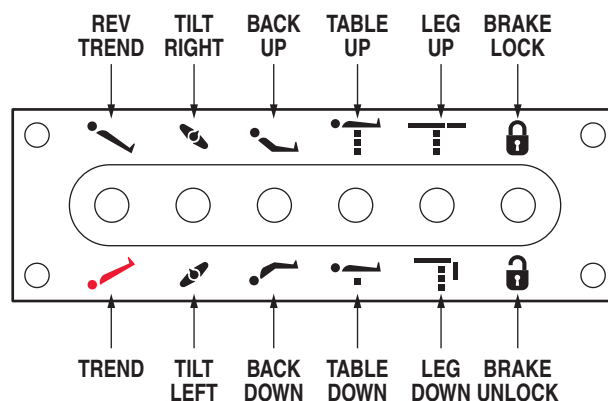

Figure 2-18. Emergency Back-up Controls
b. In the event of either a power failure or a problem with the hand-held pendant control, the table can be operated using the emergency back-up switches. Simply push the desired emergency switch in the appropriate direction to operate the table functions. See figure 2-18.